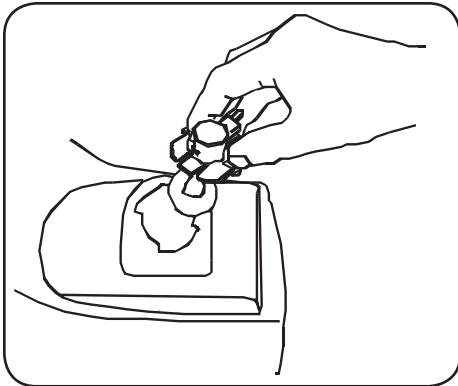

Figure 4-3
3. Rotate the socket assembly approximately a ¼-turn to align the socket tab with the reflector housing notch; then withdraw the bulb and socket assembly from the reflector housing. See Figure 4-3.
5. Align a locking post of the bulb base with the notch in the socket, then push the bulb inward and turn clockwise to lock. See Figure 4-3.